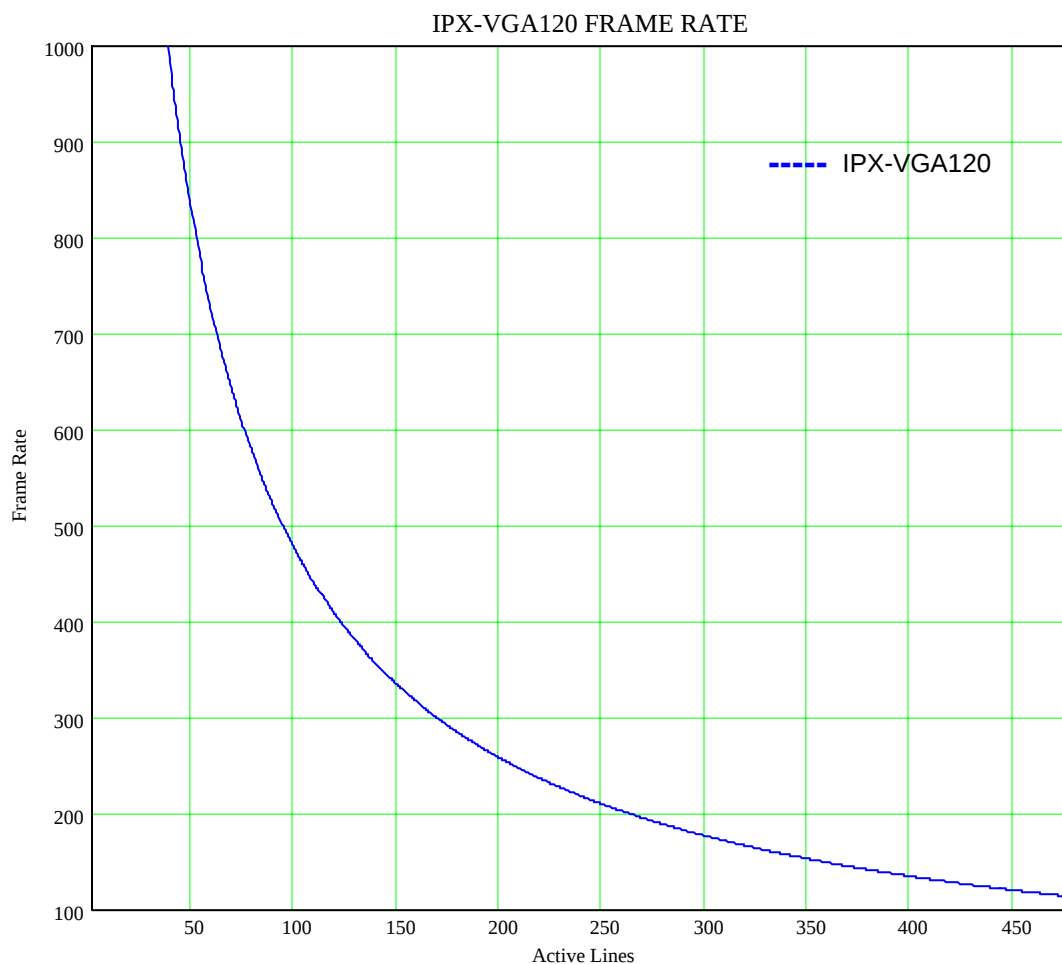

Figure 2.22 - Frame Rate vs. Vertical Window Size (IPX-VGA120)
The resulting frame rate (FR) for each camera can be approximately calculated using formulas 2.1a – 2.1f, where WS is the window size. The window size is the number of lines in the window ( $WS = \text{'End Line'} - \text{'Start Line'} + 1$ ). Figure 2.22 – 2.27 show a graphical representation of the formulas.